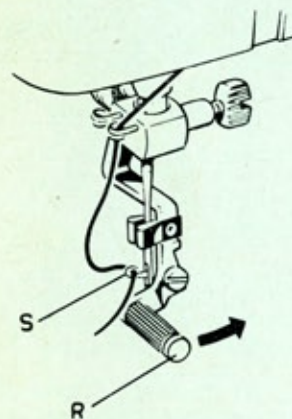

Fig. 6
- Bring knob « R » downward until hook « S » will pass through the eye of the needle (Fig. 6);